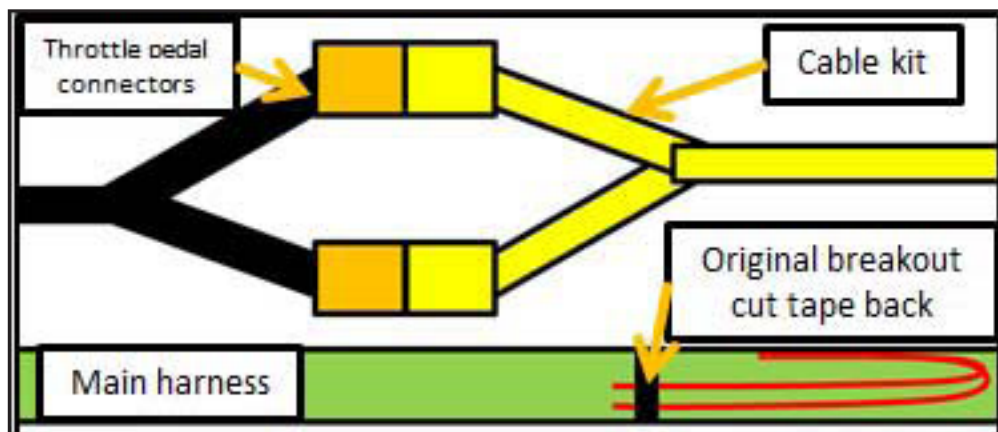

Figure 19 - Front to Back Cable Connection
- 2.6. Cut the original throttle pedal connectors on the main harness side and tape back the original breakout wires. Connect the throttle pedal connectors to the front to back cable connectors (+DH-X01D and +DH-X01E) and secure with cable ties from the throttle pedal connectors to the ITS compartment (see Figure 19).